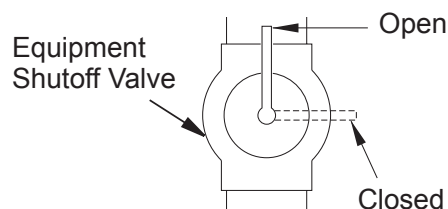

Figure 6 - Equipment Shutoff Valve
1. Close equipment shutoff valve (see Figure 6).
1. Open equipment shut off valve (see Figure 6).